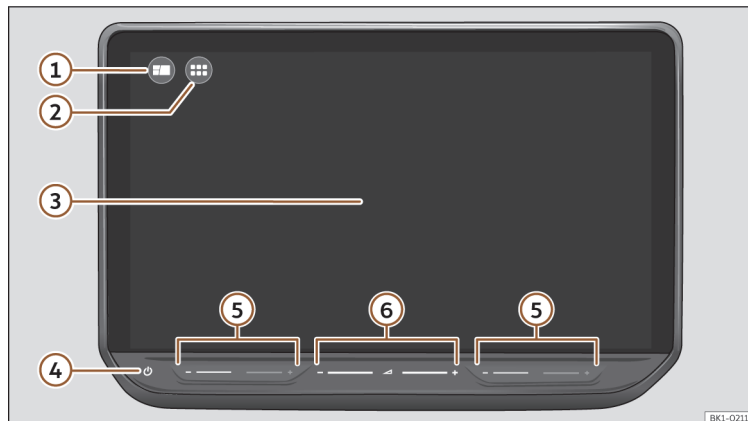

Fig. 155 Overview: control unit
>>> **Fig. 155** ① view to quickly access your favourite or most frequently used functions.